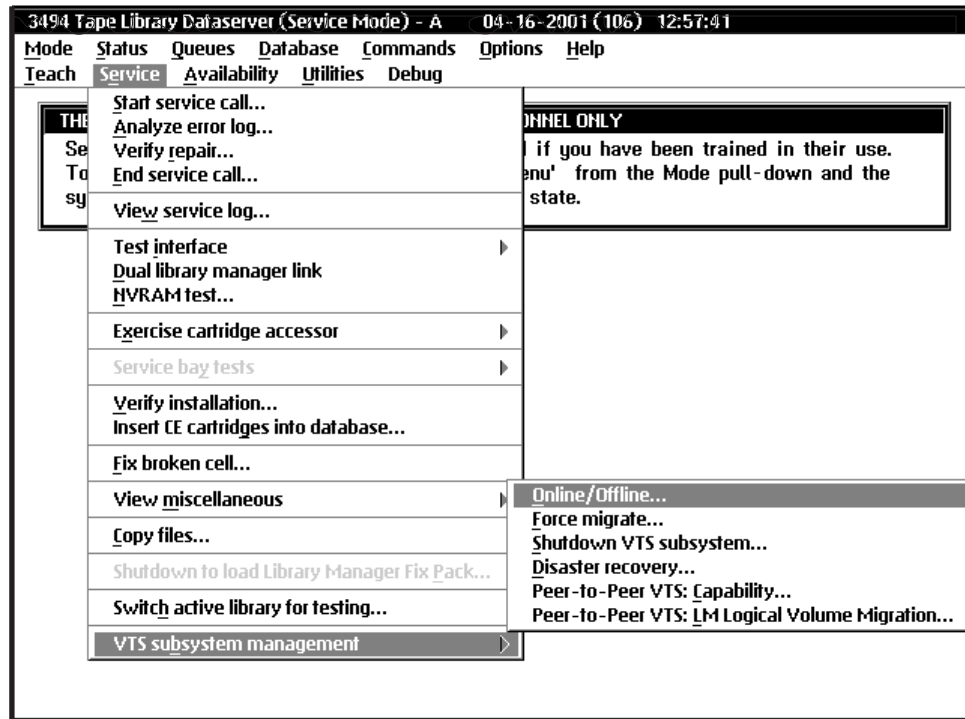
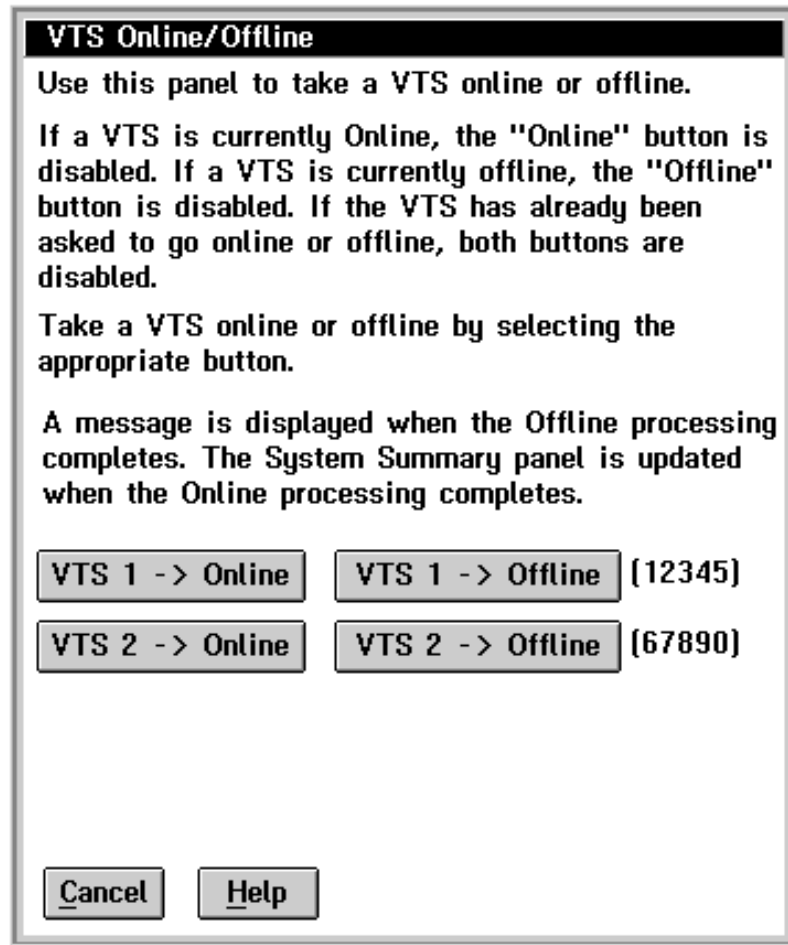

Figure 183. Service Window
Figure 184. VTS Online/Offline Window
3. In the Service window (Figure 183 on page 263), select the **VTS subsystem management** option, then select the **Online/Offline...** option to display the VTS Online/Offline window (Figure 184 on page 264).